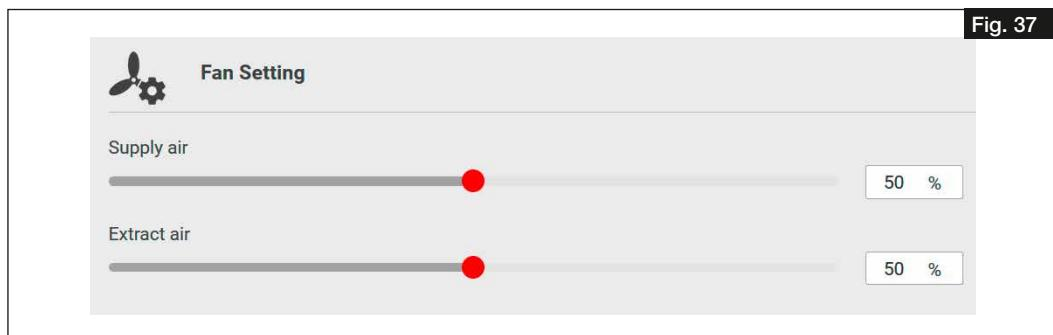

Fig. 37
5. Enter the fan powers for supply and extract air according to the determined values for nominal ventilation under “Fan setting” (cf. Fig. 37).